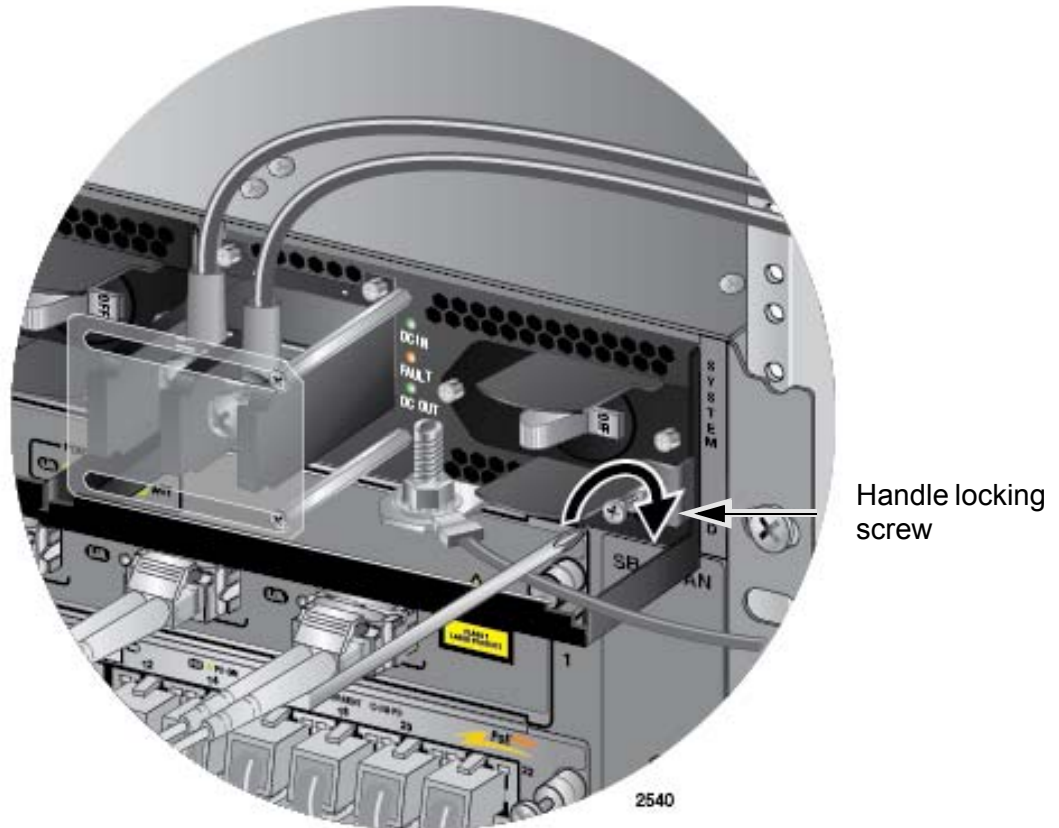

Figure 130. Tightening the Handle Locking Screw
7. With a #2 Phillips-head screwdriver, tighten the handle locking screw to secure the power supply to the chassis. See Figure 130 on page 173.